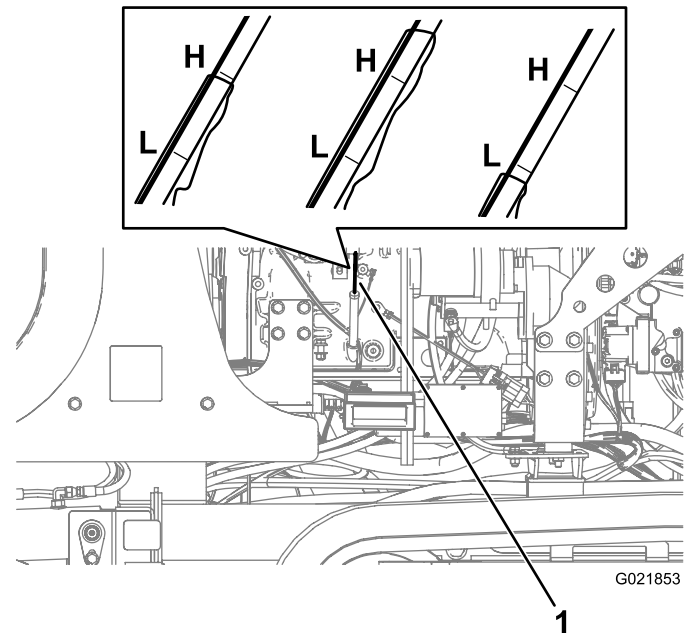

Figure 84
3. Remove the dipstick (Figure 84), and wipe it clean.